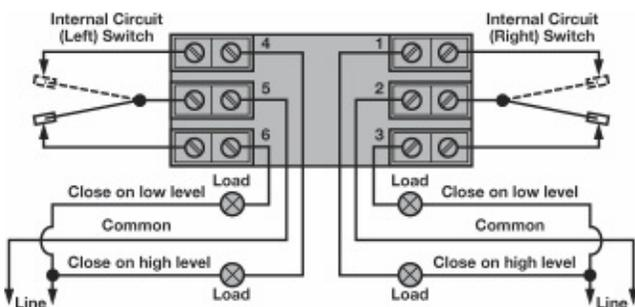

Figure 6
- b. DPDT Switch – Refer to Figure 6.